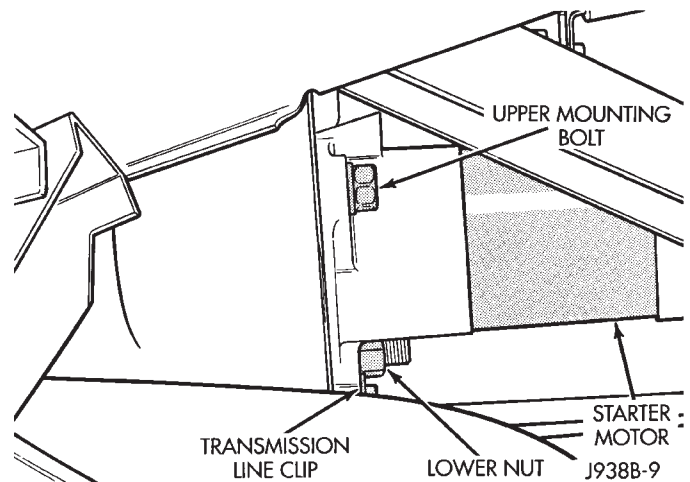

Fig. 5 Starter Motor Removal/Installation (Typical)
- (4) Remove lower mounting nut (Fig. 5).
- (5) Remove transmission line clip from stud.
- (6) Remove upper mounting bolt.
- (7) Pull starter forward and remove from vehicle.
- (8) To install the starter motor, reverse the removal procedures and torque the mounting hardware as follows: